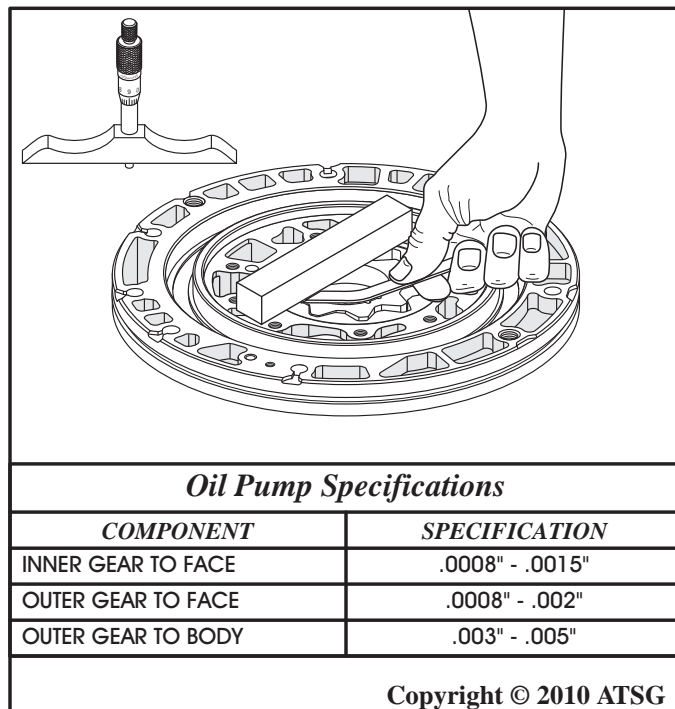

Figure 159
10. Measure the gear to face clearance on both the inner and outer gerotor using a feeler gage or a depth micrometer, as shown in Figure 159.
Note: Pump specifications are in Figure 159.